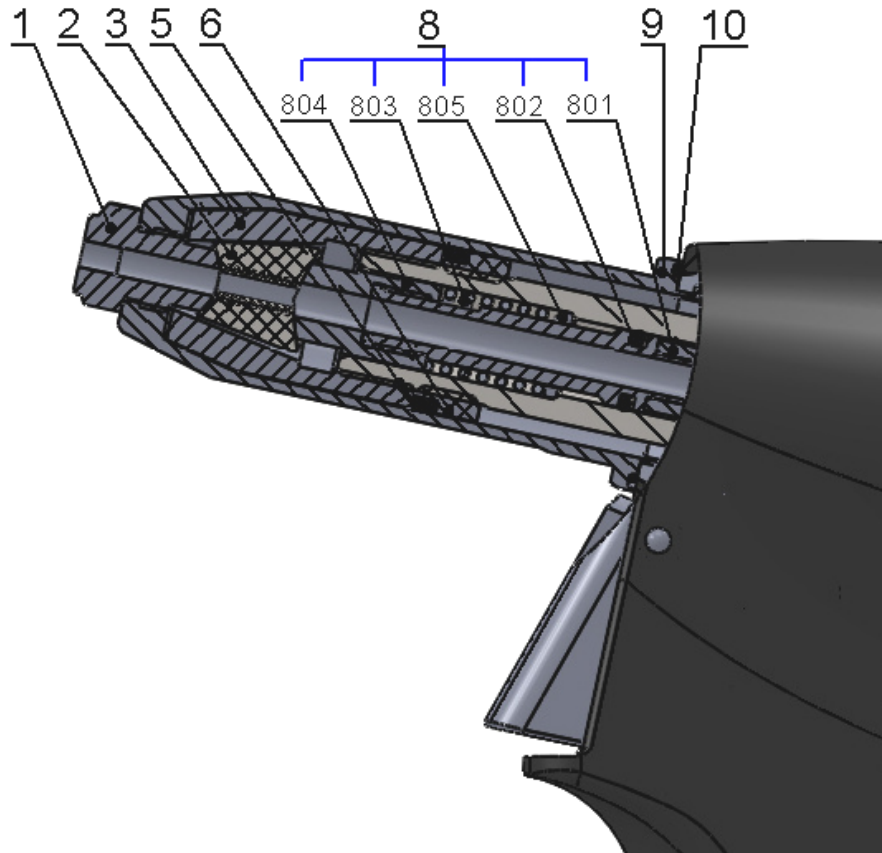
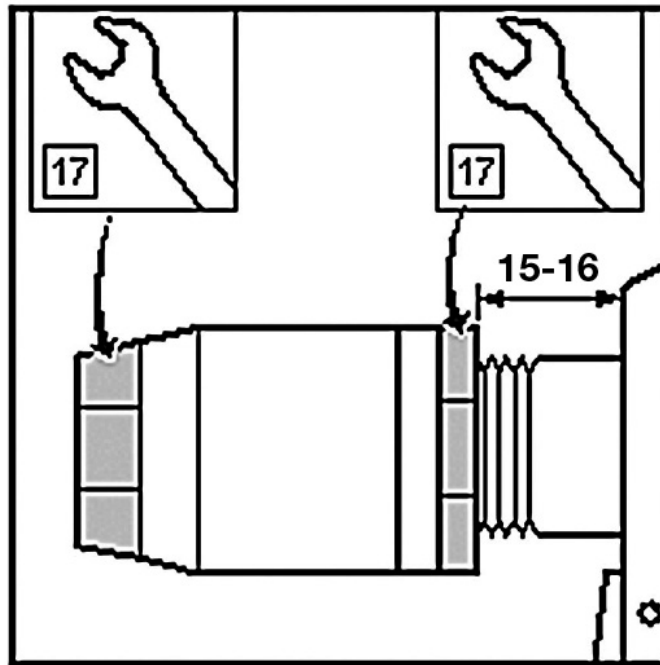

Fig. 2
Fig. 3
Disconnect the tool from the source of compressed air, unscrew the front nozzle /fig.2 - pos.9/ by means of a spanner no.23, set the spanner no.17(15) onto the clamping sleeve /fig.2 - pos.3/, set the spanner no.17 on the backnut /fig.2 - pos.6/ and loosen. Unscrew the clamping sleeve, replace the jaws /fig.2 - pos.2/ and conduit-suction complet /fig.2 - pos.8/. All used threads are clockwise. Clean the dismantled parts thoroughly and check them visually, especially the following:
- 1) Jaws /fig.2 – pos.2/ - if worn or damaged, replace it, if dirty, clean it with a wire brush.
- 2) Nose-piece /fig.2 – pos.1/ - for wear of functional surfaces of the taper.
- 3) Conduit-suction complet /fig.2 - pos.8/ - inspect parts of the assembly, jaw pusher /fig.2 - pos.804/, spring /fig.2 - pos.803/, washer of spring /fig.2 - pos.805/, O - ring /fig.2 - pos.802/ and conduit-suction /fig.2 - pos.801/ - if damaged or worn, replace it with a new one.
- 4) Front nozzle /fig.2 - pos.9/ - check for damage of the internal surface (\varnothing 20) .
- 5) Scraper ring /fig.2 - pos.5/ - if damaged or worn, replace it with a new one.
Mount the parts (see par. disassembly) in a reverse order. On the outer surface of the jaws /fig.2 – pos.2/ apply a drop of lubricating oil (we recommend hydraulic oil HYPIN AWHM 32 CASTROL), apply thin layer of plastic lubricant MOGUL LV 2-3 to the conduit-suction complet /fig.2 – pos.8/. Basic set-up of the jaws is performed as in fig. 3.